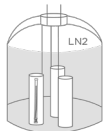

Figure 6. Dewar Filled with liquid nitrogen
- 7) Transfer the sealed container straw to the Dewar filled with liquid nitrogen (LN2) (See Figure 6).